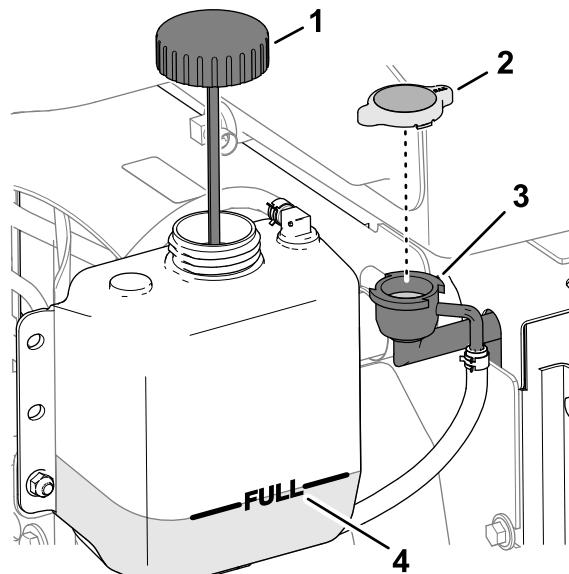

Figure 144
3. Carefully remove the radiator cap (Figure 144).
Note: The coolant level is correct if it is to the top of the filler neck of the radiator (Figure 144).